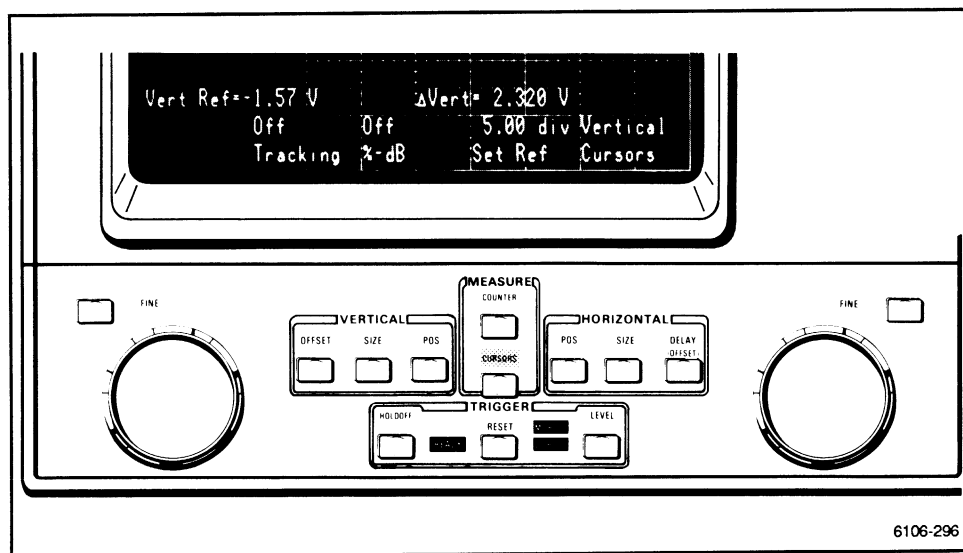

Figure 2-97. CURSORS menu after selecting vertical cursors.
4. Press the CURSOR button and select **Vertical Cursors** from the menu. Make sure that % dB and *Tracking* are **Off**. (See Fig. 2-97.)